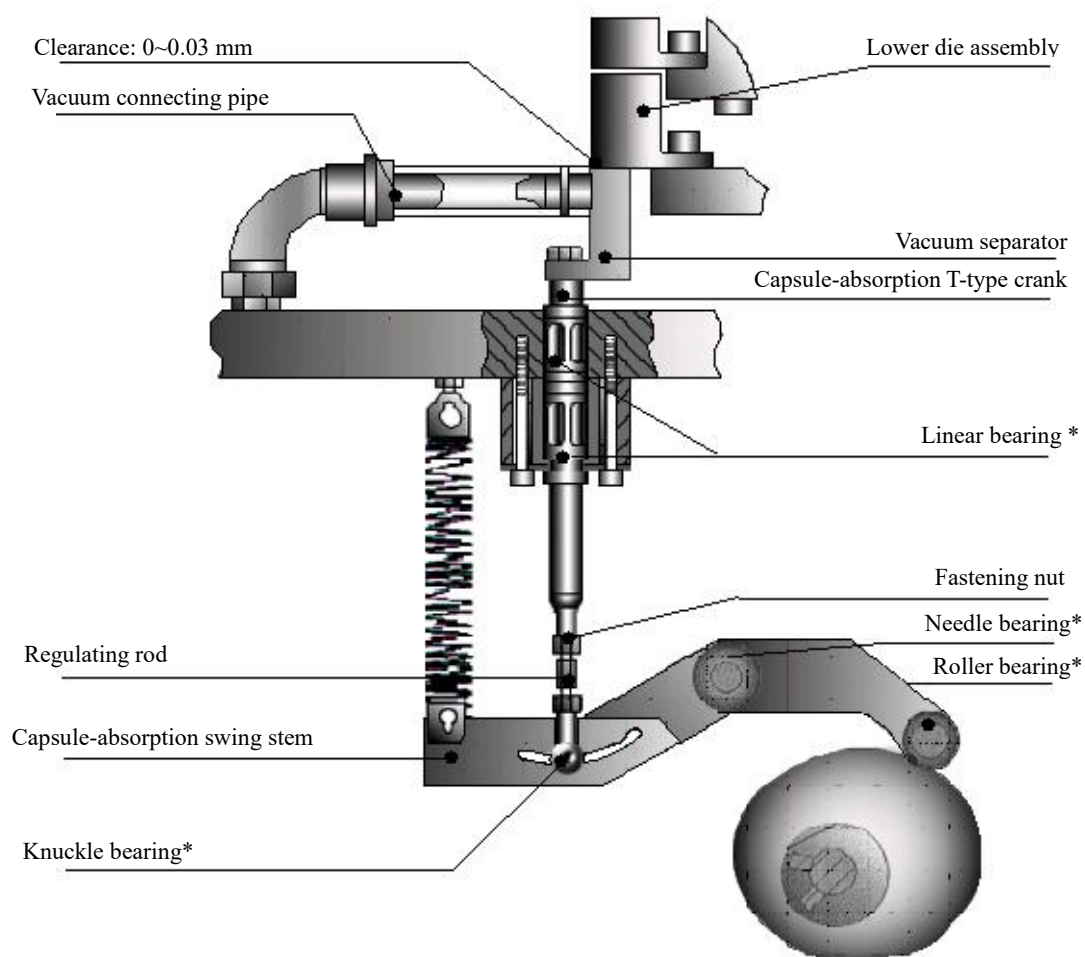

Fig. 15 Adjustment of height of vacuum separator
5.2.3 Adjustment of Vacuum Separator (refer to Fig. 15)